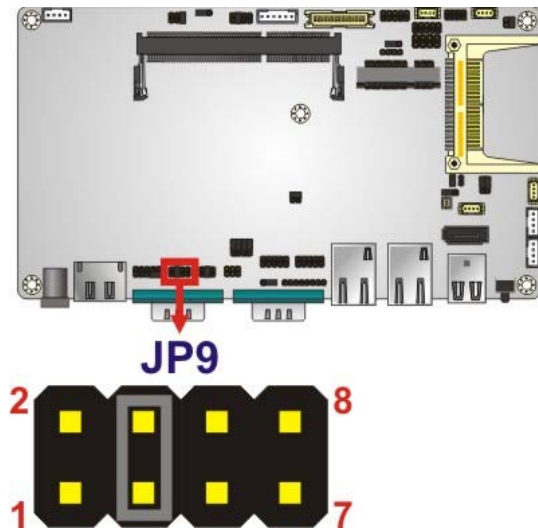

Figure 2-7: COM3 RX Function Select Jumper Location
- Jumper Location:** See Figure 2-7
The COM3 RX Function Select jumper location is shown in **Figure 2-7**.